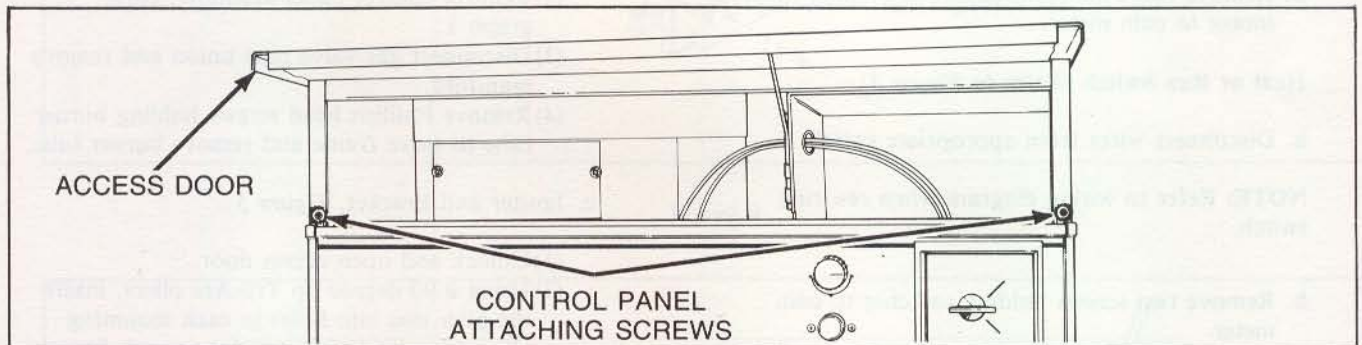

Figure 1
- b. Remove two Phillips head screws holding control panel to cabinet, *Figure 1*.
- b. Remove two Phillips head screws holding control panel to cabinet, Figure 1.